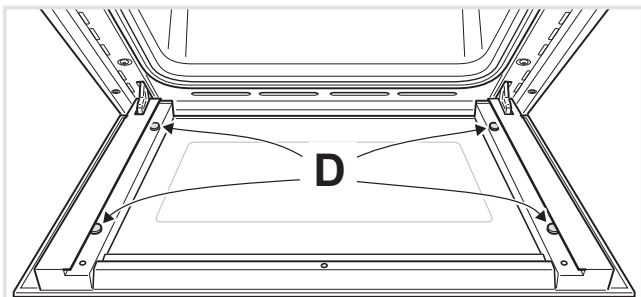

Figure 37
- Check that the four rubber pads are in place ("D" in fig. 37).